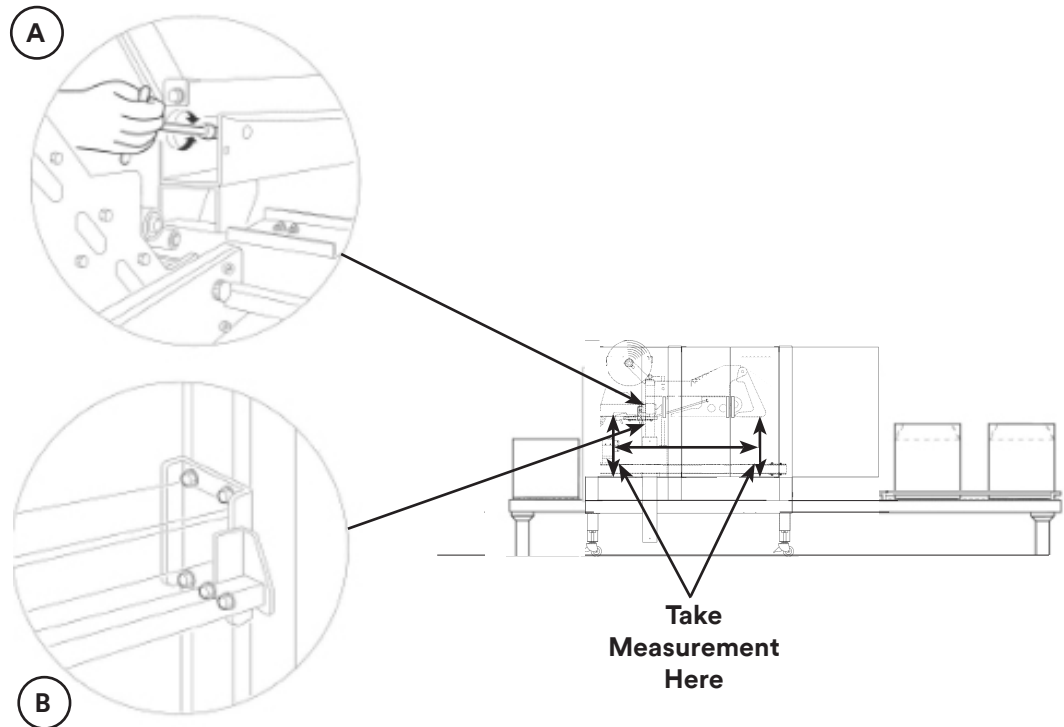

Figure 13-2 Upper Taping Head Leveling
3. Take measurement from exit end of upper head assembly and front of flap folding ski to machine bed, as shown in Figure 13-2. Upper assembly must be level $\pm 1.5\text{mm}$ [$\pm 1/16$ inch].
4. Retighten five (5) bolts on each side of crossbar to secure adjustment.